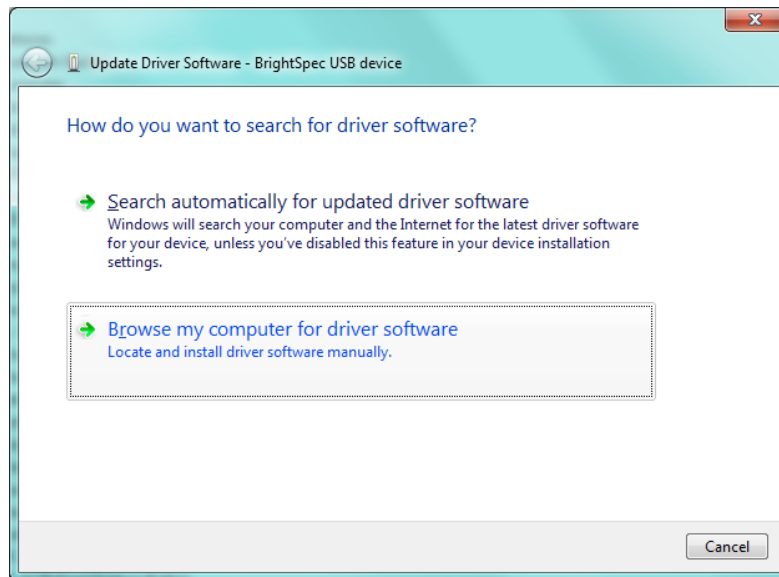

Figure 1 - Windows 7 Update Driver dialog.
3. In the dialog that appears (Figure 1), click on the “Locate and Install driver software manually” link.